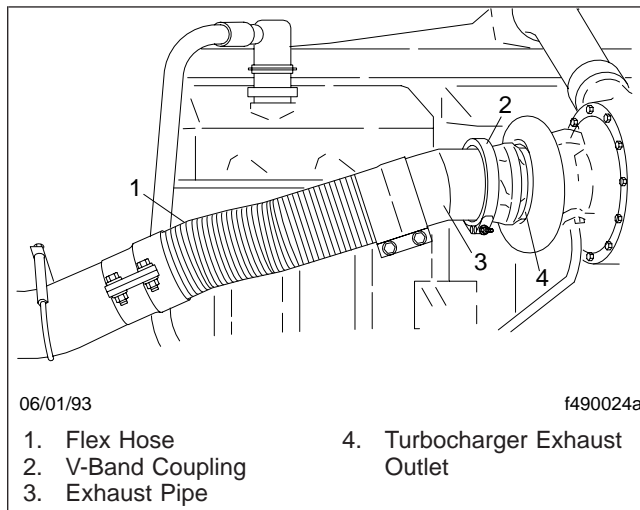

Fig. 1, V-Band Coupling and Flex Hose
2. Inspect the exhaust flex hose (see **Fig. 1**) for leakage, wear, or damage. Replace with new parts if replacement is needed.
3. Check for leakage at the V-band coupling that attaches the exhaust pipe to the turbocharger exhaust outlet. See **Fig. 1**.